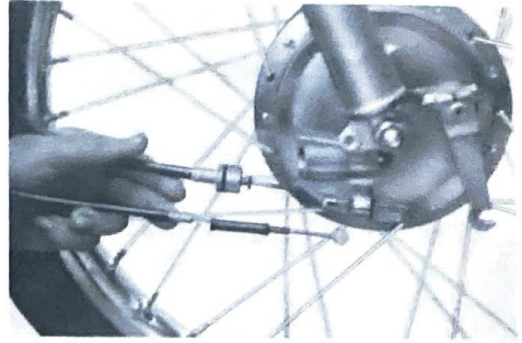

Fig. 5-1-2
- 1) Disconnect the brake cable from the front brake shoe plate, and remove the speedometer cable. (Fig. 5-1-2)